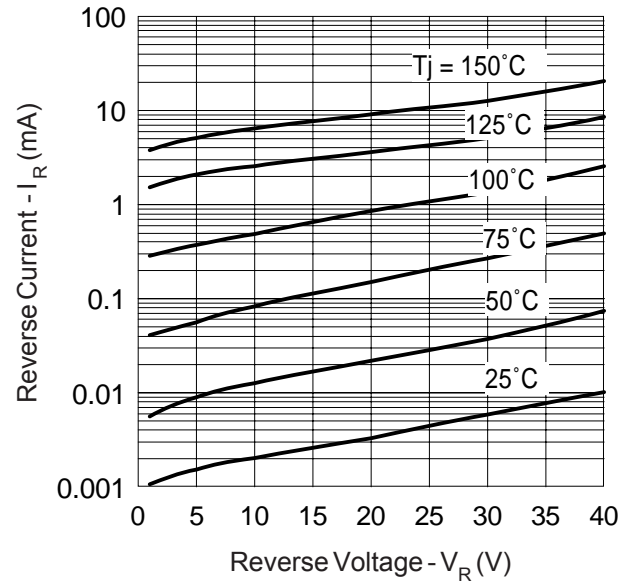

Fig. 2 - Typical Values Of Reverse Current Vs. Reverse Voltage (Per Leg)
| I_{RM} Max. Reverse Leakage (1) Current * See Fig. 2 | 10 | 80 | μA | $T_J = 25^\circ\text{C}$ | $V_R = \text{rated } V_R$ |